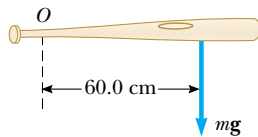

Figure P12.1
1. A baseball player holds a 36-oz bat (weight = 10.0 N) with one hand at the point O (Fig. P12.1). The bat is in equilibrium. The weight of the bat acts along a line 60.0 cm to the right of O . Determine the force and the torque exerted by the player on the bat around an axis through O .